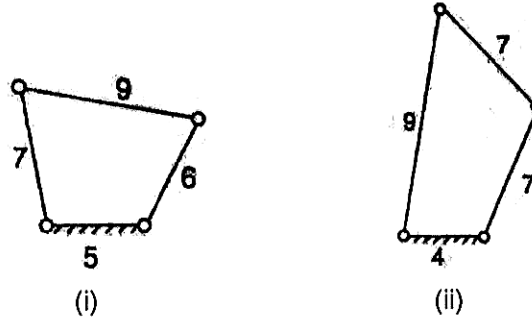

Figure 2
- b) Indicate the type of each mechanism given in the figure 2. Dimensions are given in standard units of length.